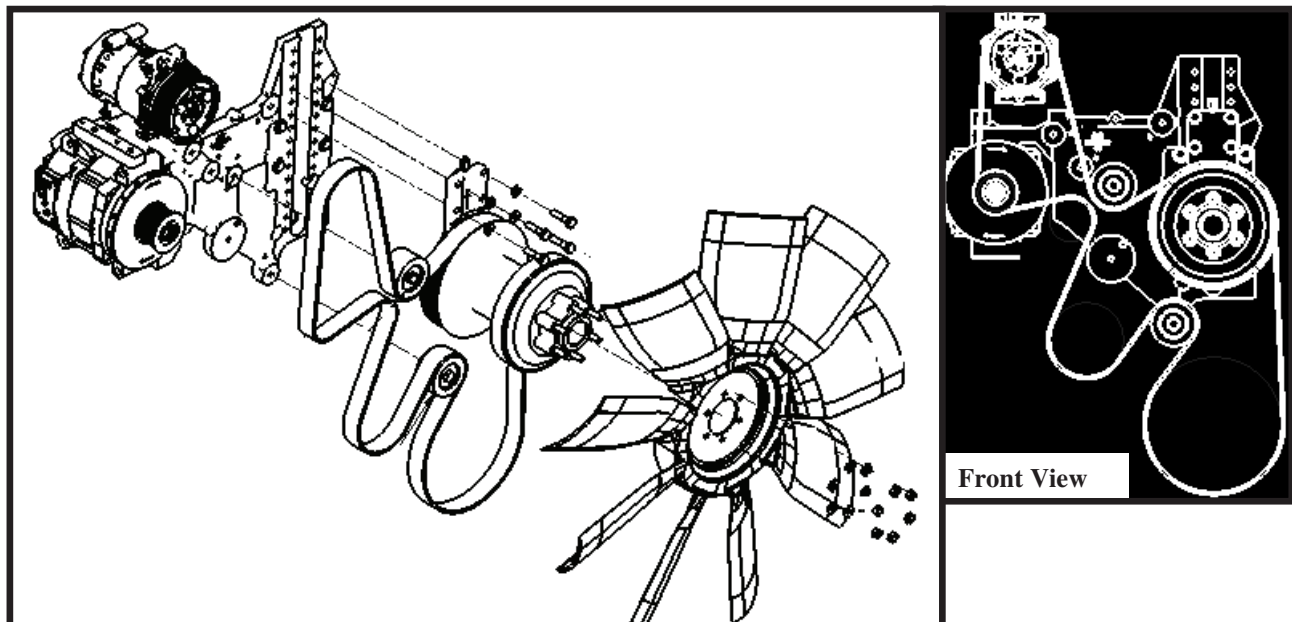

FIG. 6-1
16. Install the supplied six (6) fasteners and washers and torque in a crisscross pattern to 33-37 lbs. ft. Refer to FIG. 6-1.